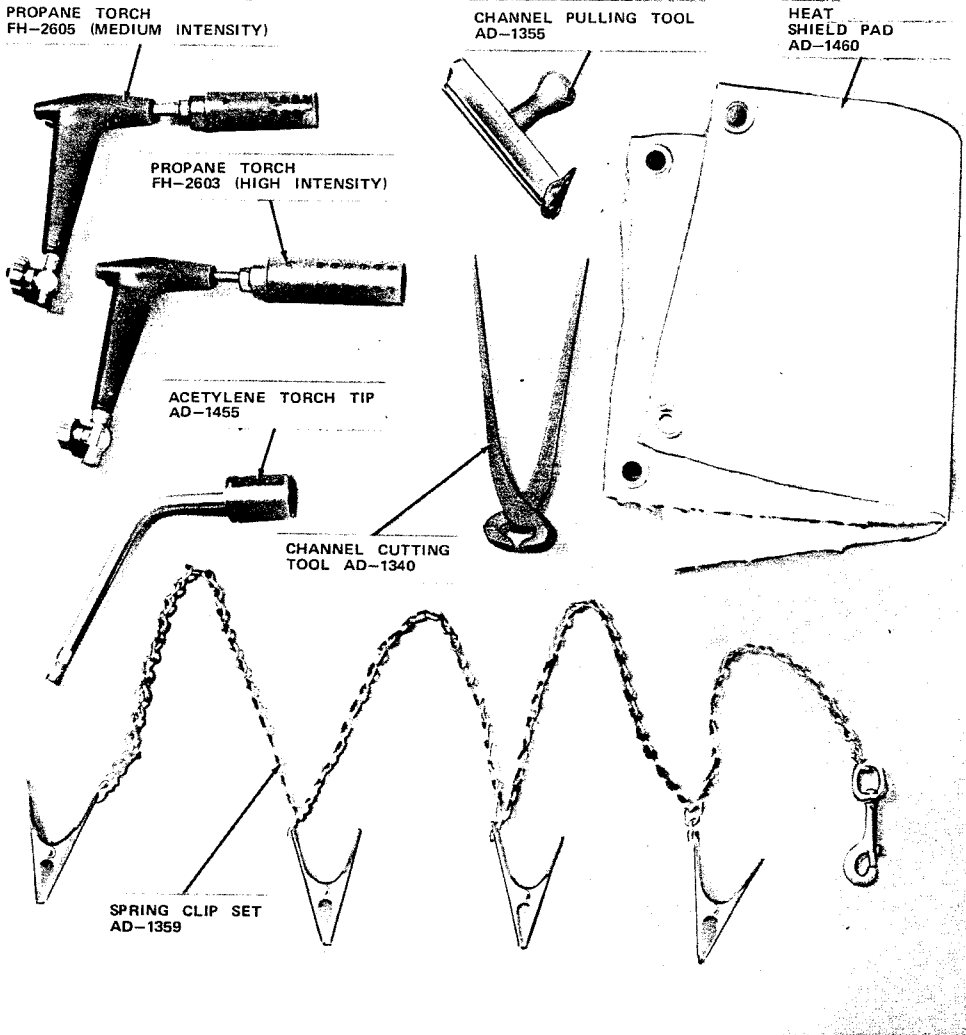

Fig. 1—Specialized Tools (Available From Raychem Corporation)
3.01 Special tools and materials which may be required for various applications of E sheath repair sleeves are shown in Fig. 1.